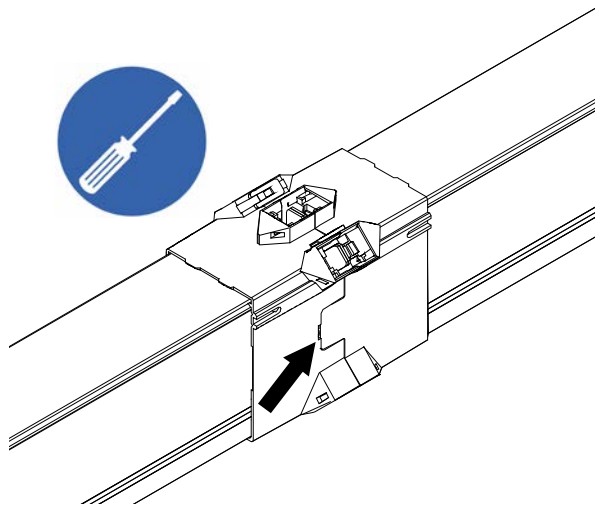

Fig. 115: Disengage wide clips
- Disengage the wide clips on the side (2x) with a screwdriver (see Fig. 115).